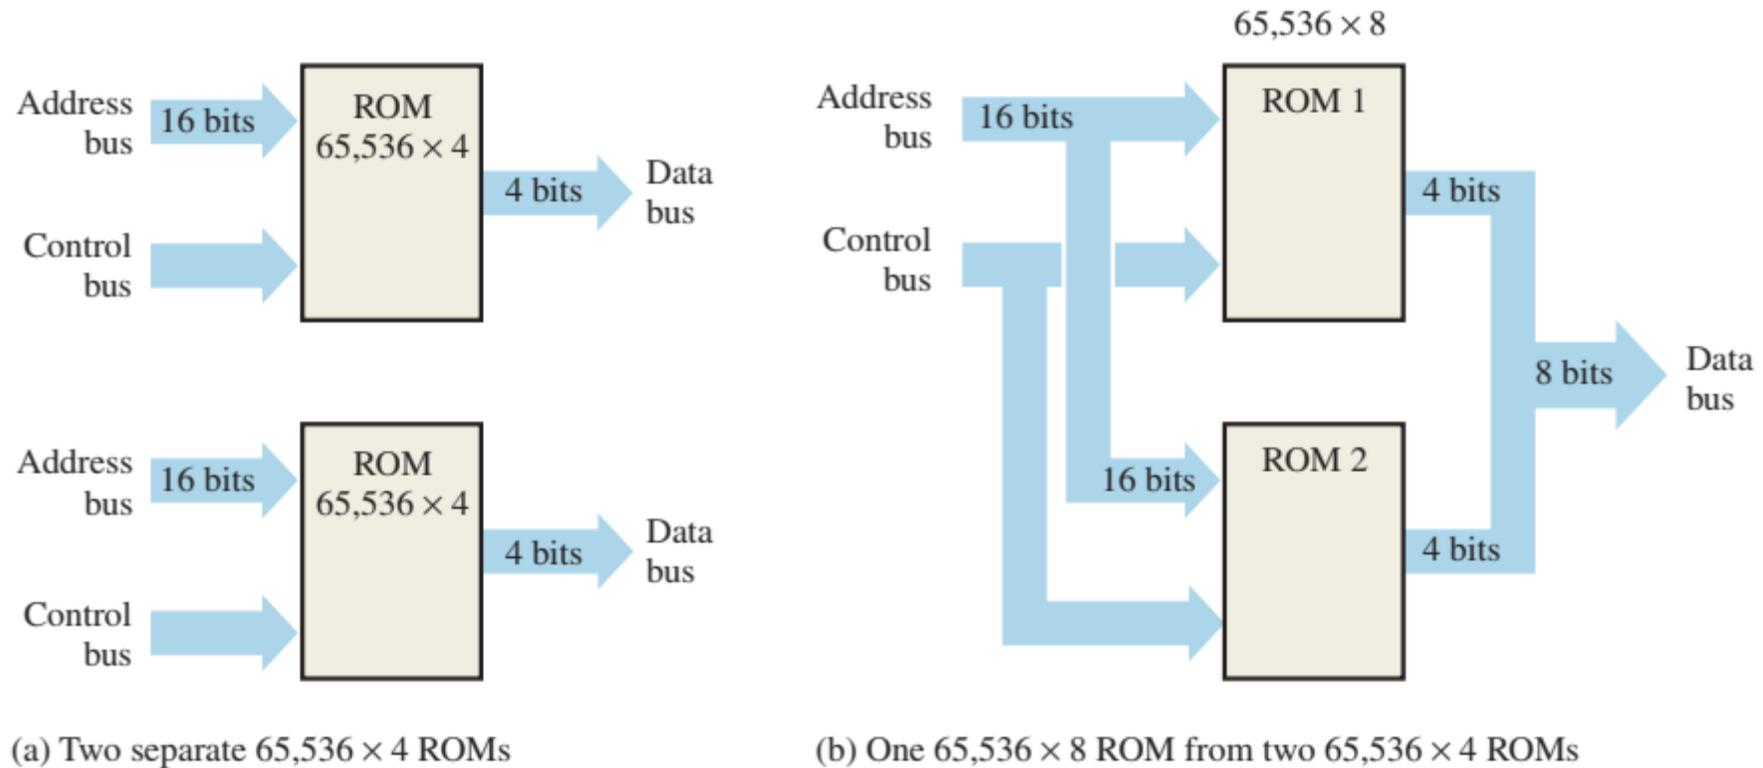

Fig. 2-25.
- ❑ Figure 2-25 shows the expansion of two $65,536 \times 4$ ROMs into a $65,536 \times 8$ ROM.